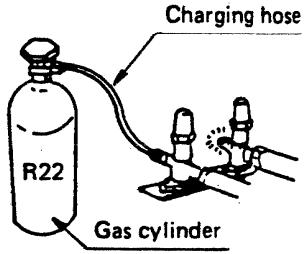

Fig. 35
- a) Connect refrigerant charging cylinder to narrow tube service valve, and open the valve of the charging cylinder. Fig. 35